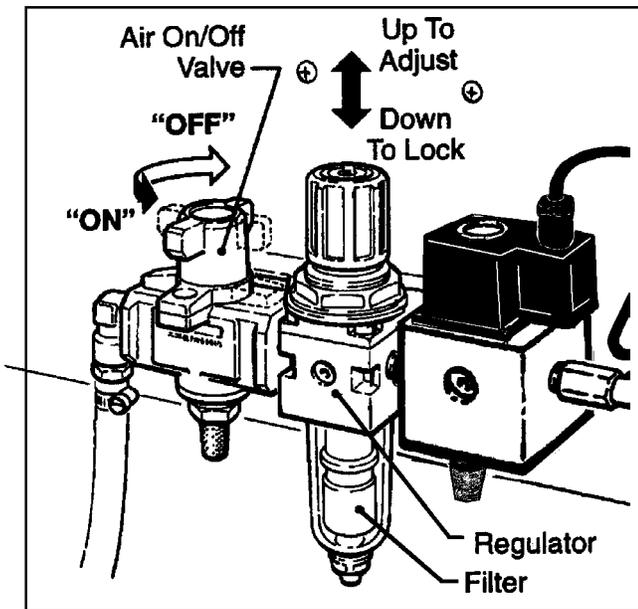

Figure 3-3 – "On/Off" Valve/Regulator/Filter
- ② Main Air "On/Off" Valve/Pressure Regulator/Filter – Figure 3-3**